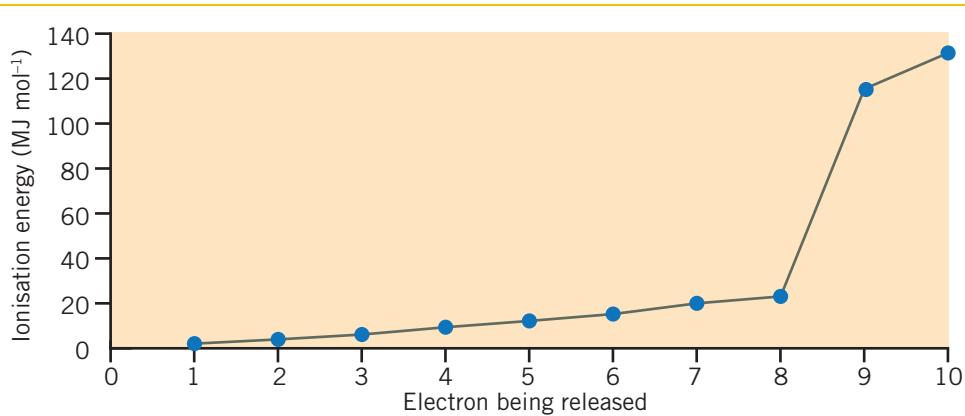

Figure 1.7 Successive ionisation energies for neon
- 5 The graph in Figure 1.7 shows the successive ionisation energies for neon.
- Explain the shape of the graph shown in Figure 1.7.
- Make a sketch of the graph of successive ionisation energies, like that drawn in Figure 1.7, you would expect for argon. Include figures on the horizontal axis, but not on the vertical axis.